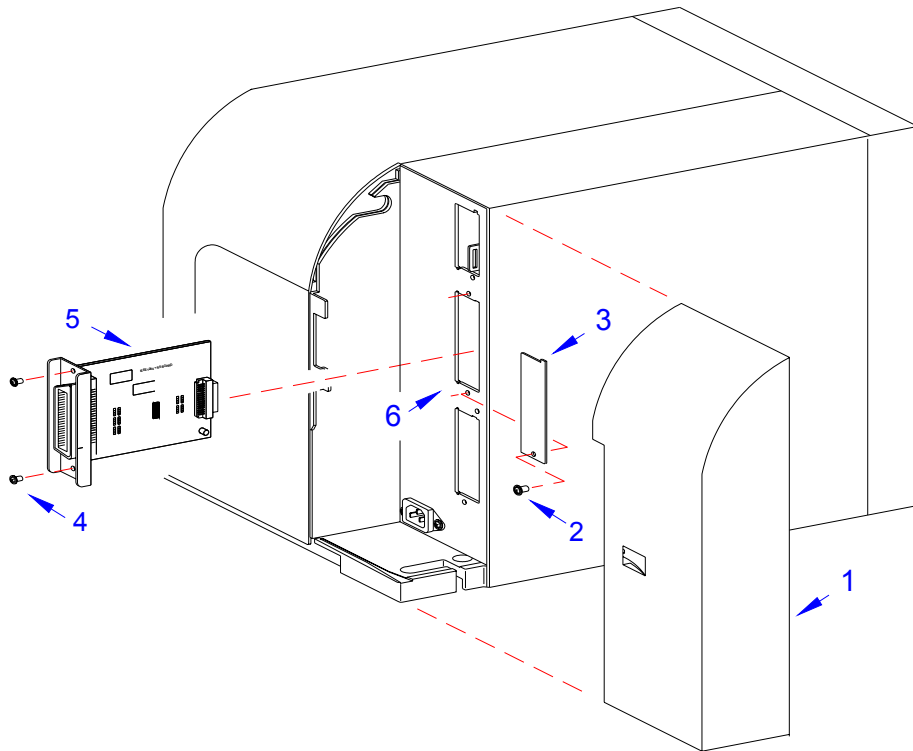

Figure 3-8, Interface Upgrade
- 1 Remove the rear housing cover (1, Figure 3-8). Disconnect the power and interface cords.
- 2 Remove screw (2) and plate (3) as required to expose the interface port.
- 3 Remove two screws (4) and withdraw existing board (5) from frame (6) as required.
- 4 Insert replacement board (5) into slot in frame (6) and secure using two screws (4).